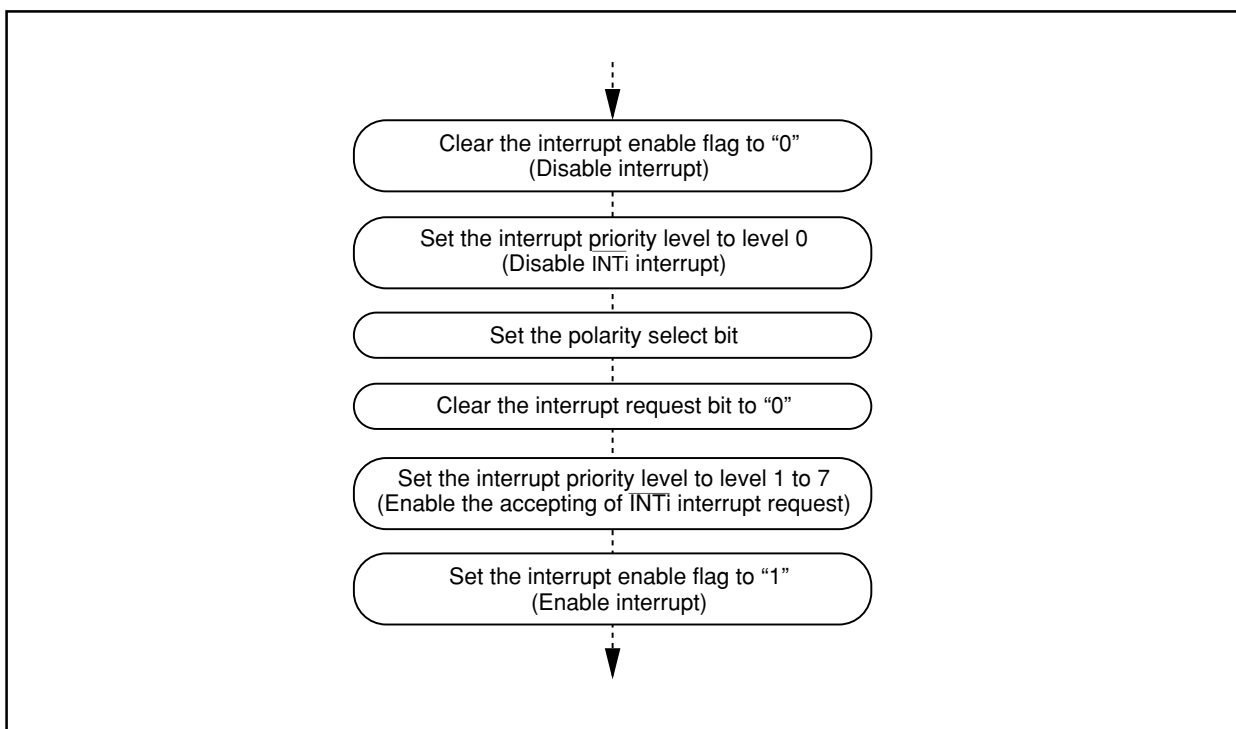

Figure 1.12.17. Switching condition of  $\overline{\text{INT}}$  interrupt request
- When changing a polarity of pins  $\overline{\text{INT}}_0$  to  $\overline{\text{INT}}_3$ , the interrupt request bit may become "1". Clear the interrupt request bit after changing the polarity. Figure 1.12.17 shows the switching condition of  $\overline{\text{INT}}$  interrupt request.